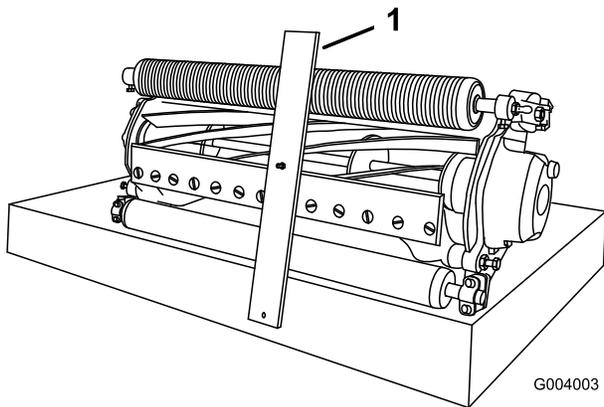

Figure 62
3. Hook screw head on cutting edge of bedknife and rest rear end of bar on rear roller (Figure 62).